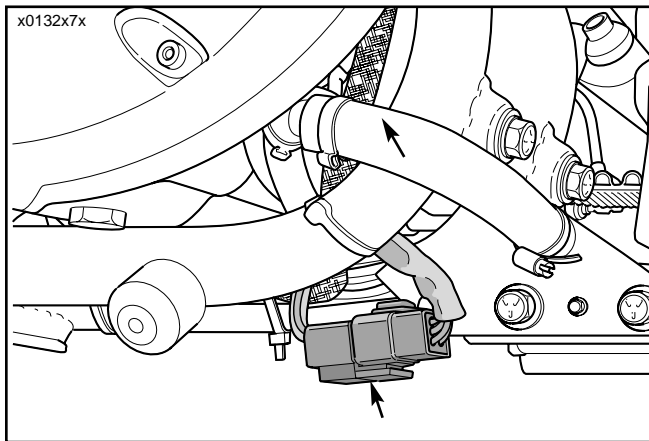

Figure 1. Ignition Module Connector
5. See Figure 1. Remove and disconnect the ignition-module connector, a 6-pin Deutsch connector, from the T-stud on the frame.